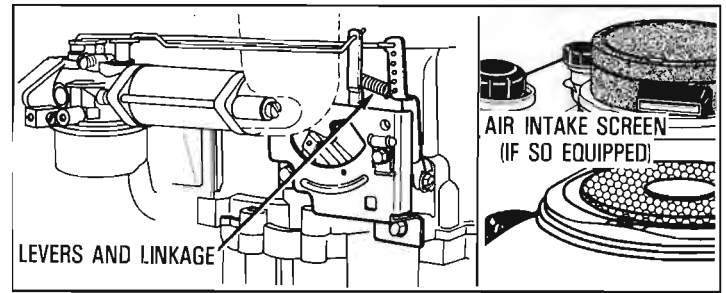

Figure 3
⚠ **KEEP HANDS, FEET, HAIR AND LOOSE CLOTHING AWAY FROM ANY MOVING PARTS ON ENGINE AND EQUIPMENT. BE SURE AIR INTAKE SCREEN (IF SO EQUIPPED SEE FIGURE 3) IS SECURELY IN PLACE TO AVOID CONTACT WITH MOVING PARTS.**
③ COOLING SYSTEM (see Figure 3):